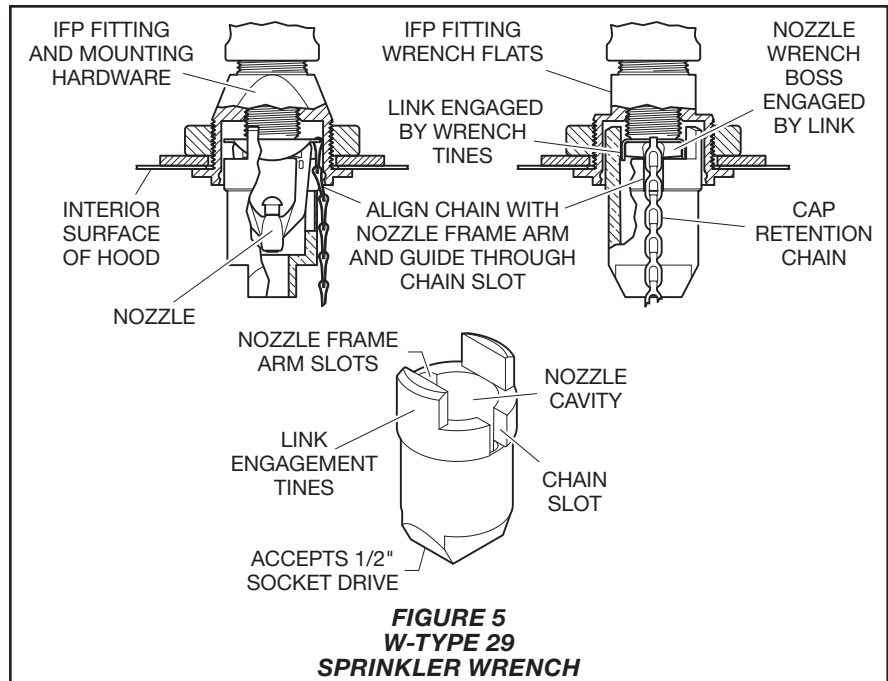

FIGURE 5
Step 4. Tighten nozzle into fitting using only W-Type 29 Wrench (Figure 5). Guide wrench arm slots over nozzle frame arms, guide Cap Retention Chain through wrench chain slot, and engage Link flanges by wrench tines.